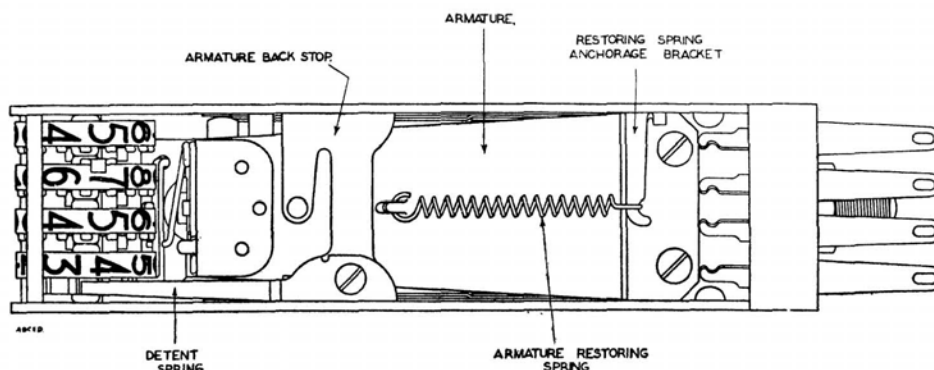

FIG. 1.—‘A’ VIEW
1. Introduction.—This Instruction details maintenance adjustments for the P.O. standard (100-type) meter, which is illustrated in Figs. 1, 2 and 3.